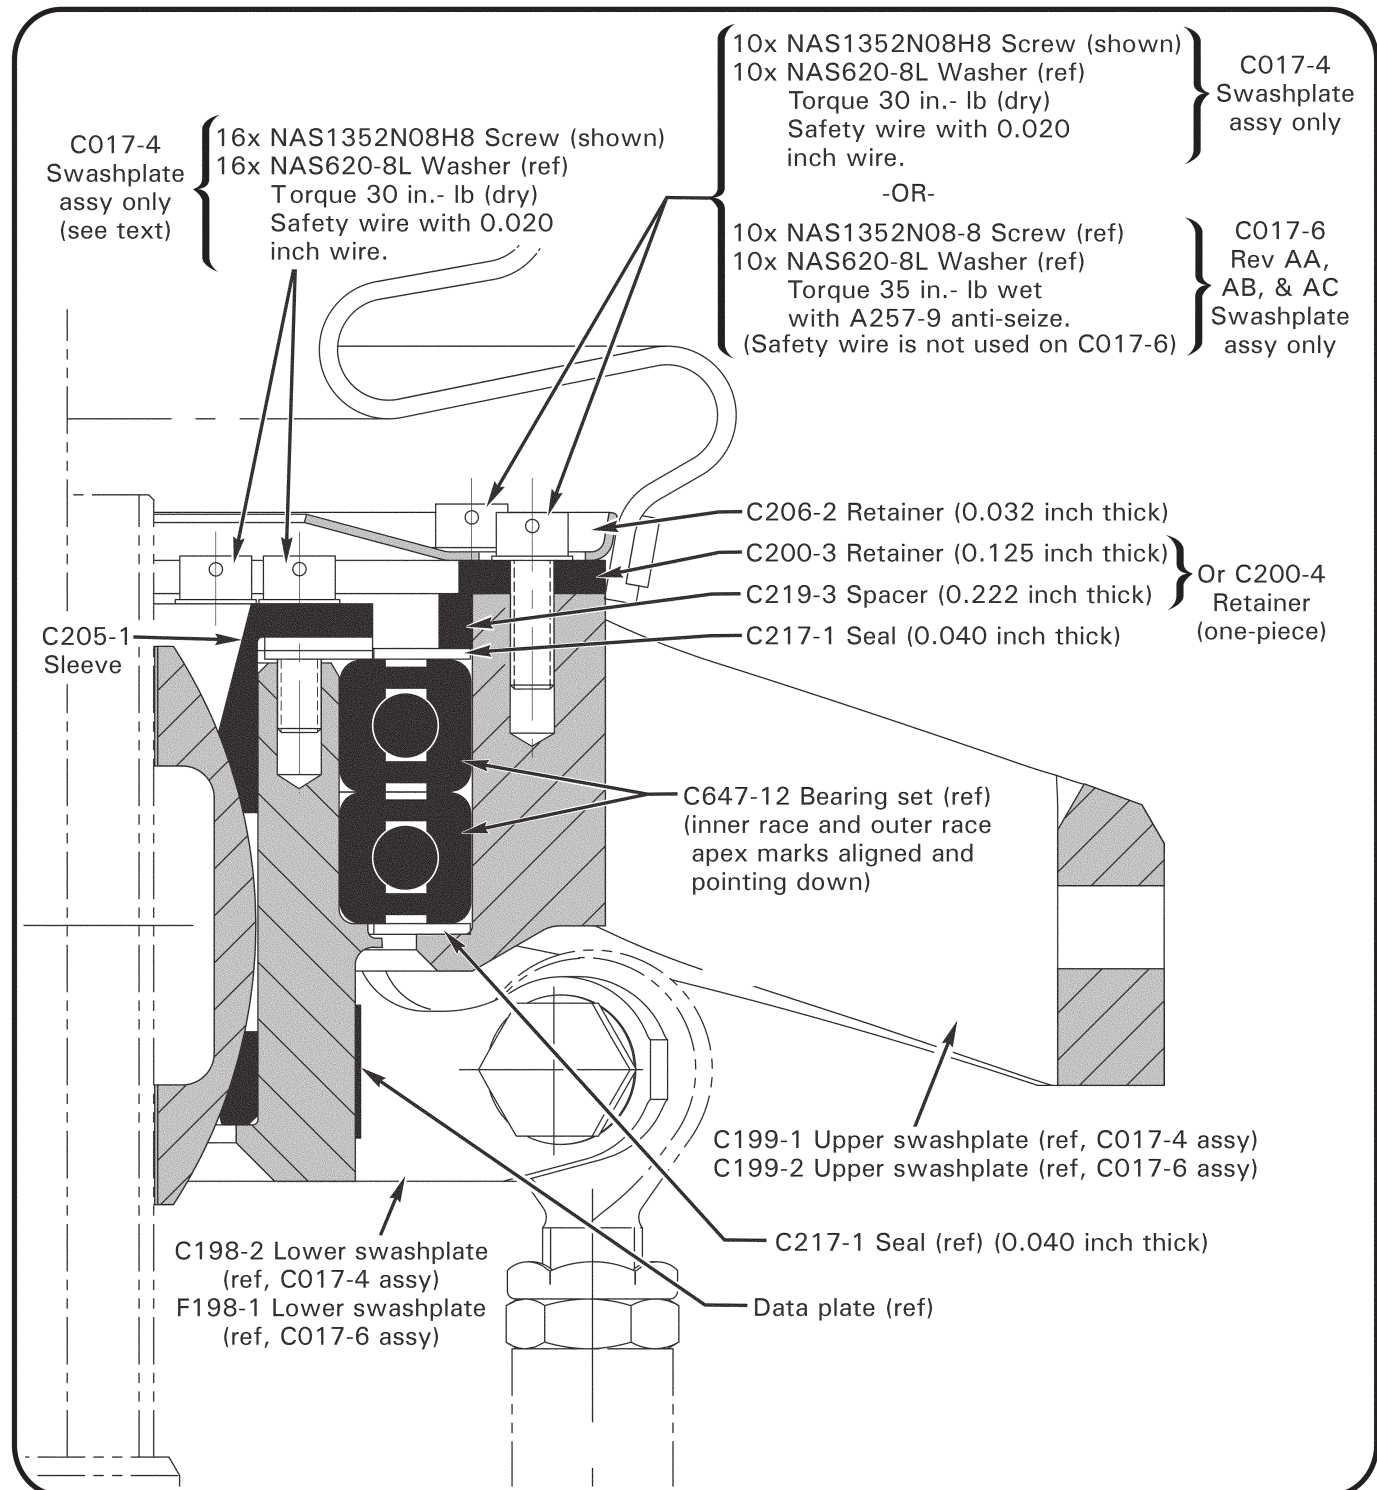

**FIGURE 1-2A**
4. See Figure 1-2A. Connect MT384 (or similar) 0.8-1.2 gpm hydraulic test pump to T-fittings on D500-1 pump. Fittings are different sizes to ensure correct connection.
1.190 Bleeding Hydraulic System (see Figure 1-2A)